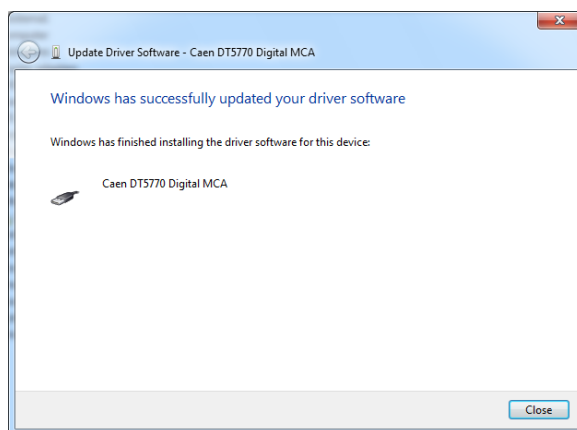

Fig. 10.4: Installation completed
6. Windows informs the driver software is successfully installed (see Fig. 10.4).